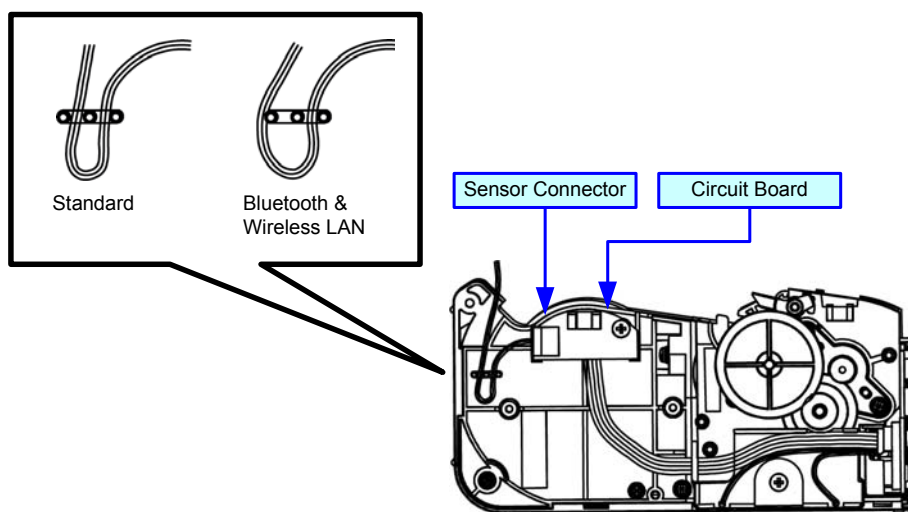

Figure 7-8b, Eye-Mark Sensor Replacement
- 5 Disconnect the defective eye-mark sensor from the circuit board located on the left side of the printer (Figure 7-8b).
- 8 Connect the sensor to the circuit board and route the wiring harness (Figure 7-8b).